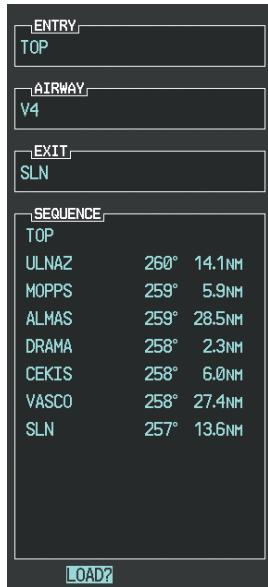

Figure 5-112 Ready to Load V4
- j) Press the **ENT** Key. The selected airway and exit are displayed, and the prompt "LOAD?" highlighted as in Figure 5-112.